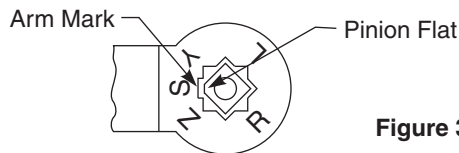

Figure 3
Step 5: Install main arm onto pinion shaft of unit at a 90° angle to the door frame. Align arm mark "S" with the flat corner of the pinion shaft square. (See Fig. 3 below.)